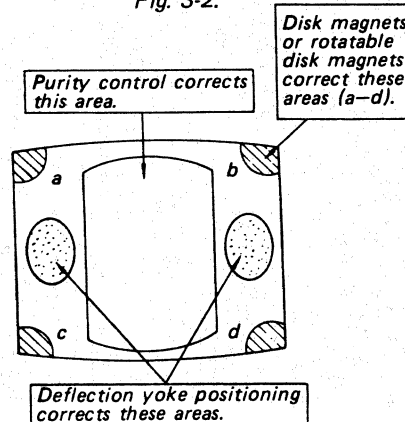

Fig. 3-3.
11. Check if mislanding appears at corners a-d as shown in Fig. 3-3. If mislanding is observed, correct it as shown in Fig. 3-3.